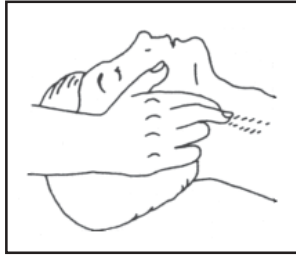
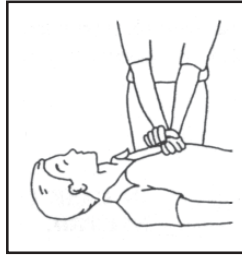
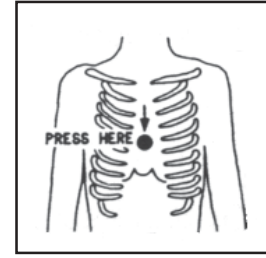

Figure 3
Figure 4
Figure 5
- Check carotid pulse (**Figure 3**); if pulse is absent, begin artificial circulation (**Figure 4**) depressing sternum (**Figure 5**)